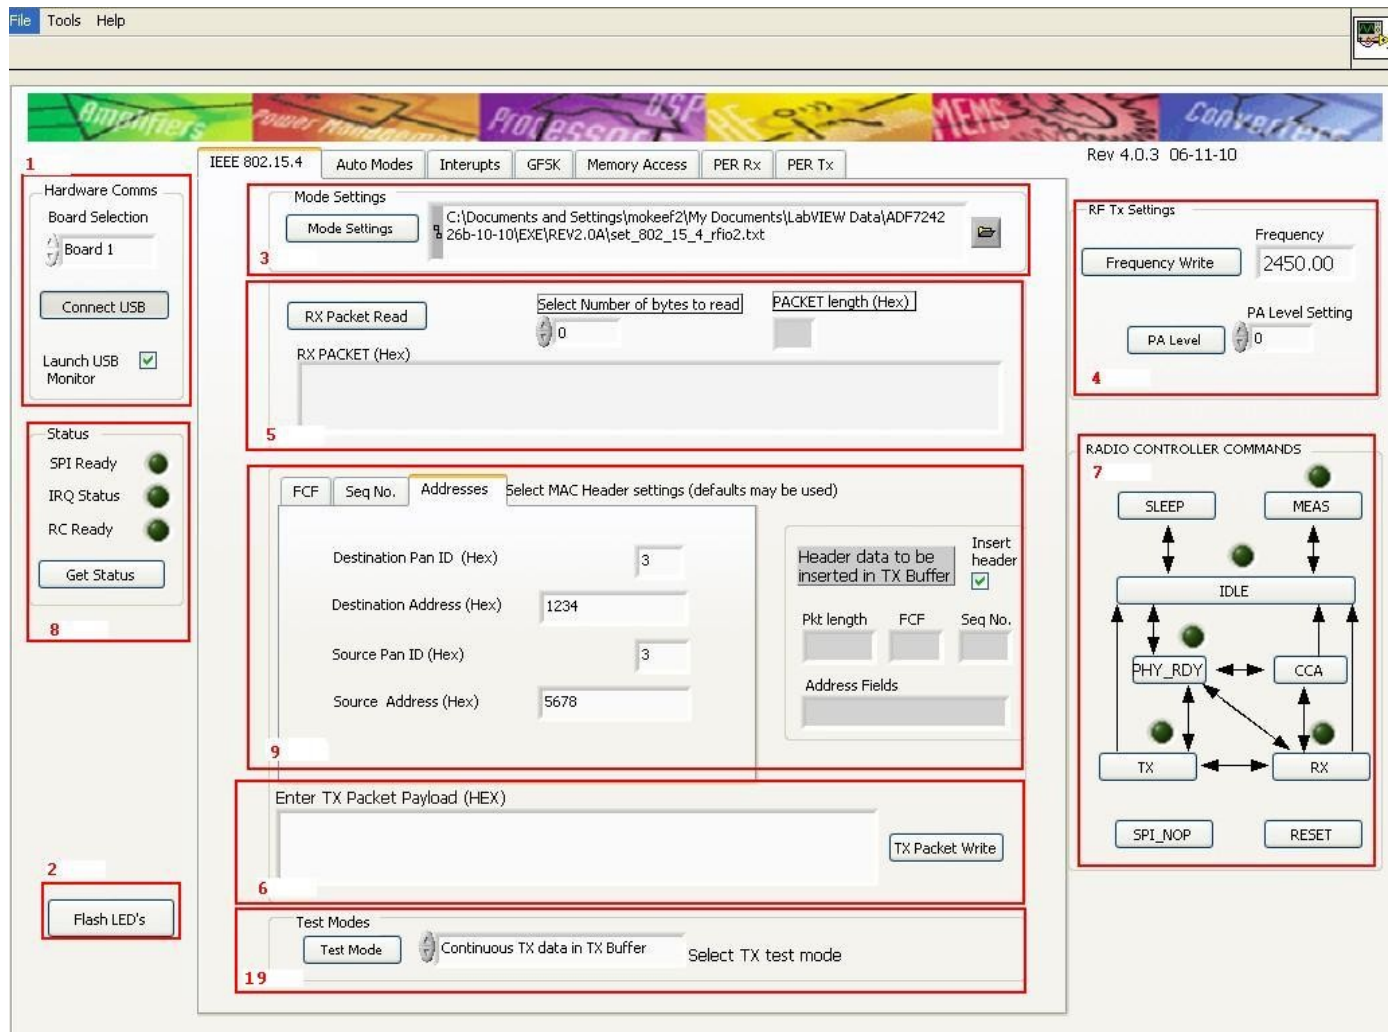

Figure 2: This screen shot shows the IEEE 802.15.4 tab.
If two boards are connected to one PC launch 2 software GUIs and select board1 on one and board2 on the other. Figure 2 shows the software GUI.
- Click on the IEEE 802.15.4 or GFSK tab depending mode of operation required. Figure 2 shows the IEEE 802.15.4 tab. The GFSK tab is similar.